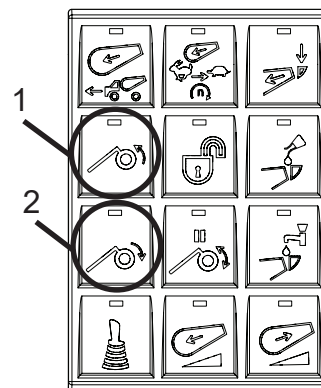

Figure 143
2. Press the Tag Axle function button (UP button is Item 1, and DOWN button is Item 2) on the optional in-cab keypad (Figure 143).